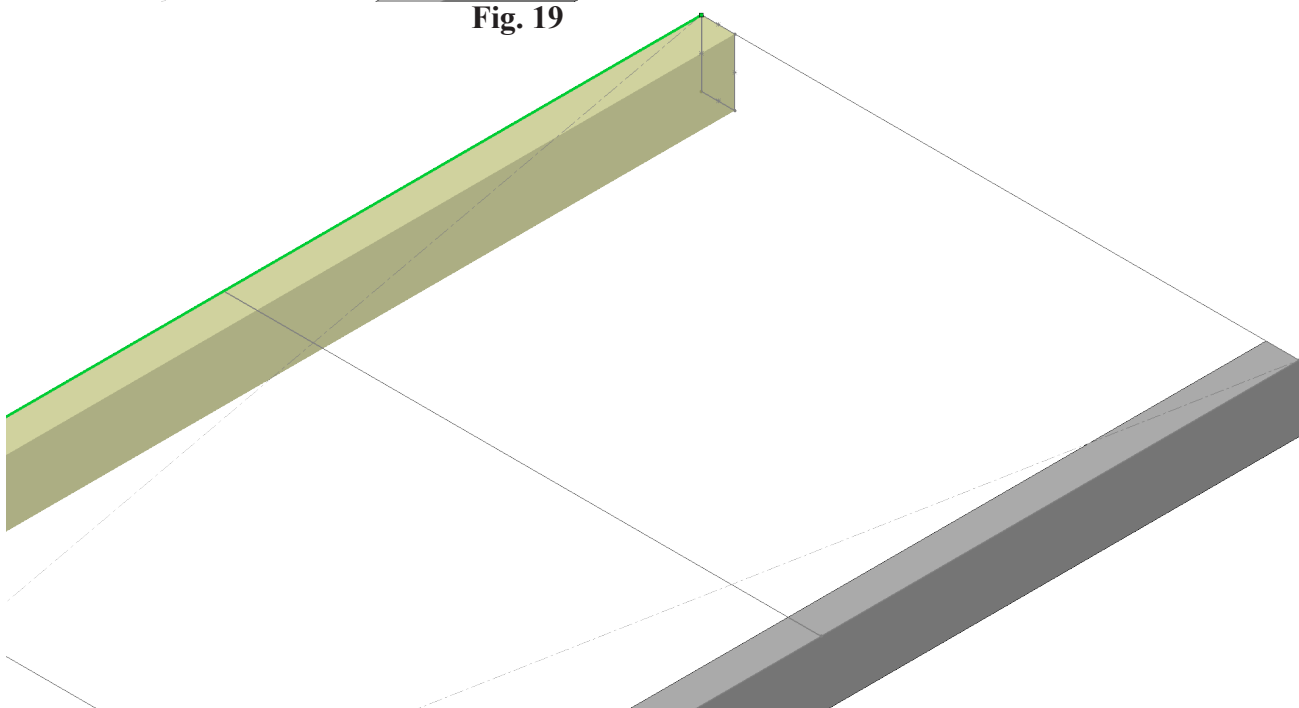

Fig. 20
press Tab key, Fig. 20
Step 3. Confirm member is inside sketch, Fig. 20 and click OK .